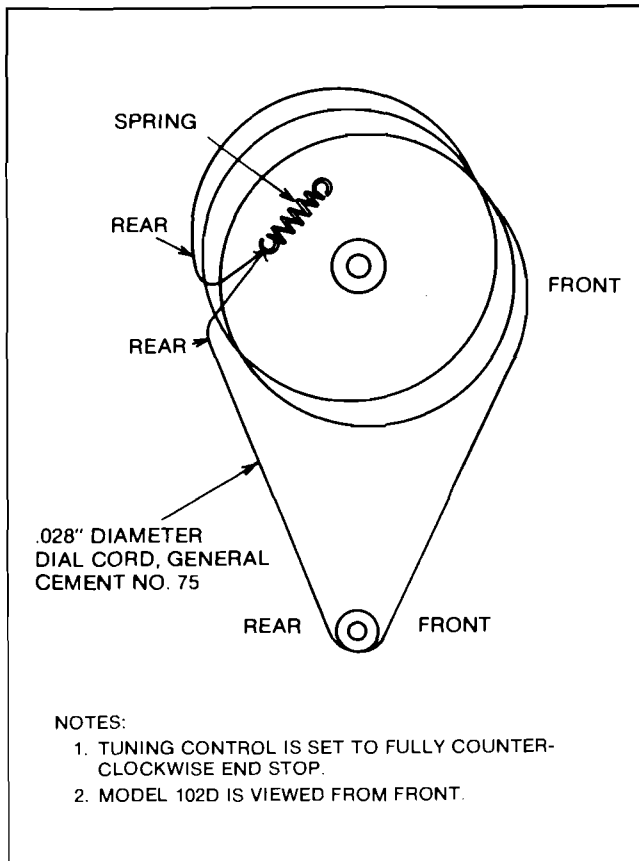

Figure 4-5 TUNING Control Drive, Dial Cord Installation
**4-29. Tuning Control Drive, Dial Cord Replacement.** The TUNING control drives the VFO tuning elements by means of a dial cord arrangement. If replacement of the dial cord becomes necessary, set the TUNING control fully counter-clockwise against the stop and install the dial cord as shown in Figure 4-5. Use 0.028 inch diameter nylon dial cord, General Cement part number 75, or equivalent.